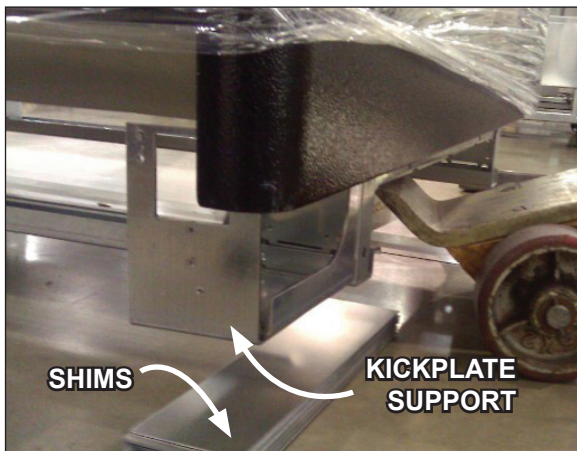

Fig. 1 Kickplate support
4. Locate basehorse positions along the chalk line. Spot properly leveled shim packs at each basehorse location. For narrow cases (ONRZ-PV and ONRZH-PV), place shim packs under both the basehorses and kickplate supports (Fig. 1).